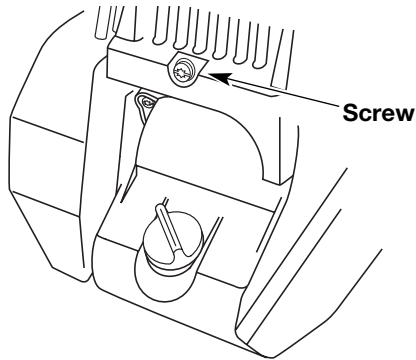

Fig. 69
- Remove the screw behind the engine cover (Fig. 69).